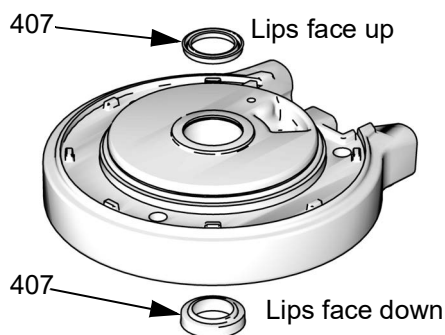

FIG. 13. Air Motor U-cup Installation
1. Lubricate and install the o-ring (402) on the top cover (410).
2. Lubricate the inside of the cylinder (405). Lower the cylinder onto the top cover (410).
3. Install the shield (406) around the cylinder (405) and in the groove on the top cover (410).
4. See FIG. 13. Lubricate and install new u-cup seal (407) in the bottom of the bearing in the bottom cover (401). The lips must face down. Lubricate and install new u-cup seal (407) in the top of the bearing. Lips must face up. Install retaining ring (417).